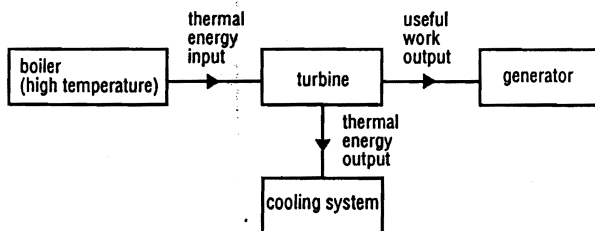

Fig. 1
- 1 The electrical generator in a power station is driven by a steam turbine. The turbine absorbs thermal energy from a boiler and produces useful work. However, thermal energy must also be removed from the turbine by a cooling system as shown in Fig. 1.